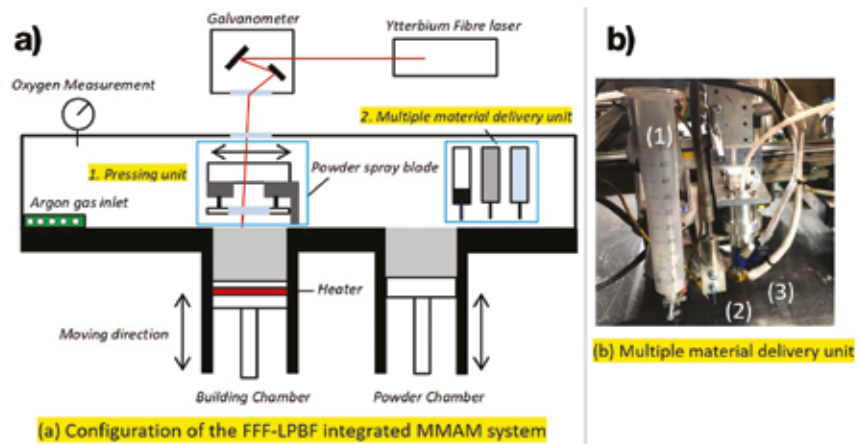

Figure 1: Schematic - FFF-LPBF-integrated MMAM system at The University of Manchester.
Figure 1(a) illustrates the configuration of the FFF-LPBF integrated MMAM system. A 500 W continuous-wave (CW) Ytterbium fibre laser (IPG Photonics Ltd, YLR-500-WC) with a 1070-nm wavelength and a 60 μm beam spot size was equipped with a Nutfield 3XB 3-Axis galvanometer to perform laser scanning. A pre-heating system (up to 300 $^{\circ}\text{C}$) was integrated within the building chamber. The entire system was filled with argon gas to prevent oxidation and installed with an oxygen sensor to ensure low oxygen content during the scanning process.
To enable the printing of multiple material components, a specially designed multiple-material-delivery unit - composed of ultrasonic vibration-assisted powder delivery nozzles (Figure 1(b1)) that can selectively deliver more than one type of metallic
powders, a selective powder removal system (Figure 1(b2)) that can remove powders of a single or multiple layers from selected locations, and a modified commercial type E3D-V6 J-head extrusion nozzle (Figure 1(b3)) that can print polymer components through heating and melting of filaments were integrated with motorised X-Y motion controls inside the system. A pneumatic mechanical pressing unit was used to facilitate metal/polymer joining. The activated air pistons push an N-BK7 (Edmund, UK) glass window (to enable laser scanning at the same time) onto the polymer/metal interface to compress the FFF-extruded melted polymer into the LPBF-fabricated macroscopic mechanical interlocking structures.